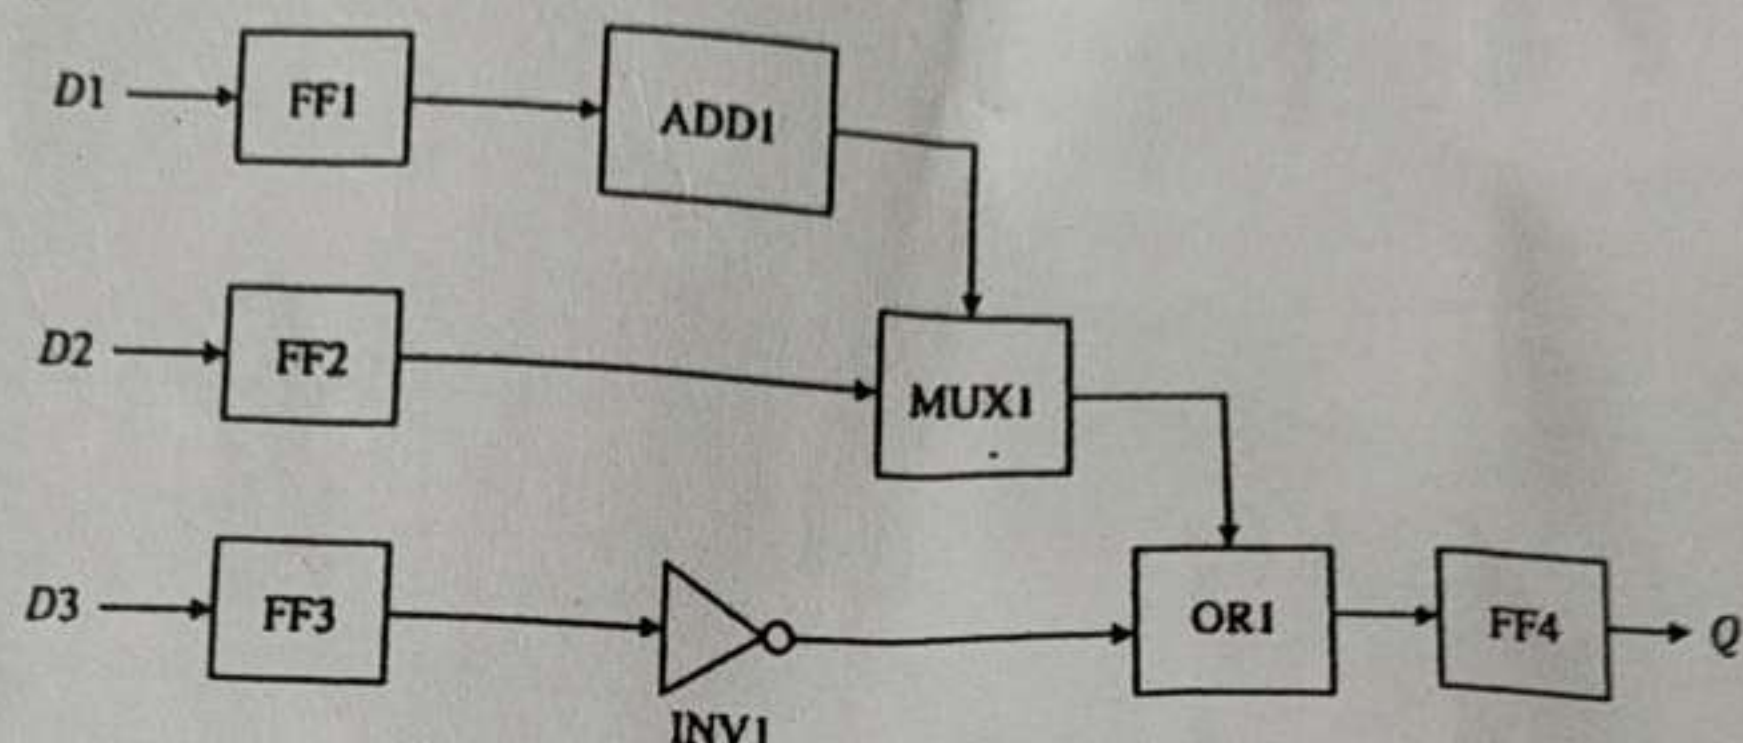

Fig.1
- 4 Consider the synchronous circuit shown below in Fig.1. All flip-flops are positive-edge triggered and driven by the same clock.